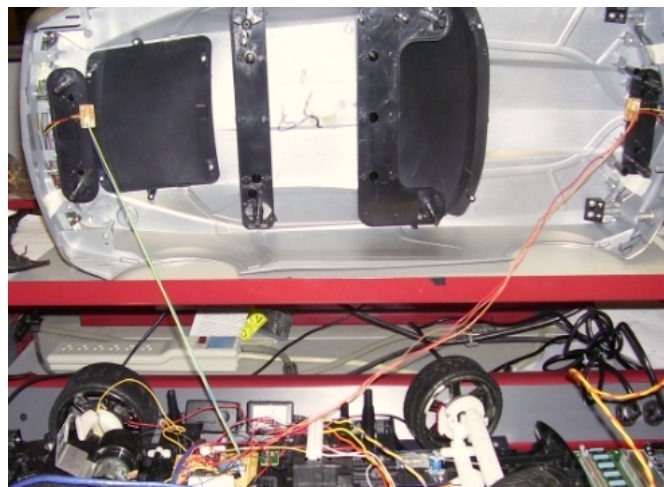

Figure 16: LED Head/Tail Light Connections
- 7) Check to ensure the 2 - LED lights on the plastic car case are connected and secured to the CAN Network board. These should ideally not be removed. The wires are shown in the following Figure 16.